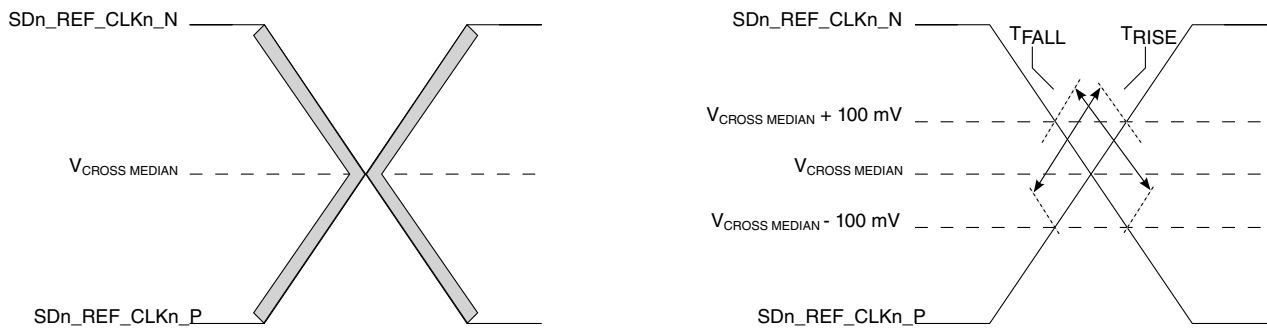

Figure 38. Single-ended measurement points for rise and fall time matching
11. Matching applies to rising edge for SDn_REF_CLKn_P and falling edge rate for SDn_REF_CLKn_N. It is measured using a 200 mV window centered on the median cross point where SDn_REF_CLKn_P rising meets SDn_REF_CLKn_N falling. The median cross point is used to calculate the voltage thresholds that the oscilloscope uses for the edge rate calculations. The rise edge rate of SDn_REF_CLKn_P must be compared to the fall edge rate of SDn_REF_CLKn_N, the maximum allowed difference should not exceed 20% of the slowest edge rate. See Figure 38 .